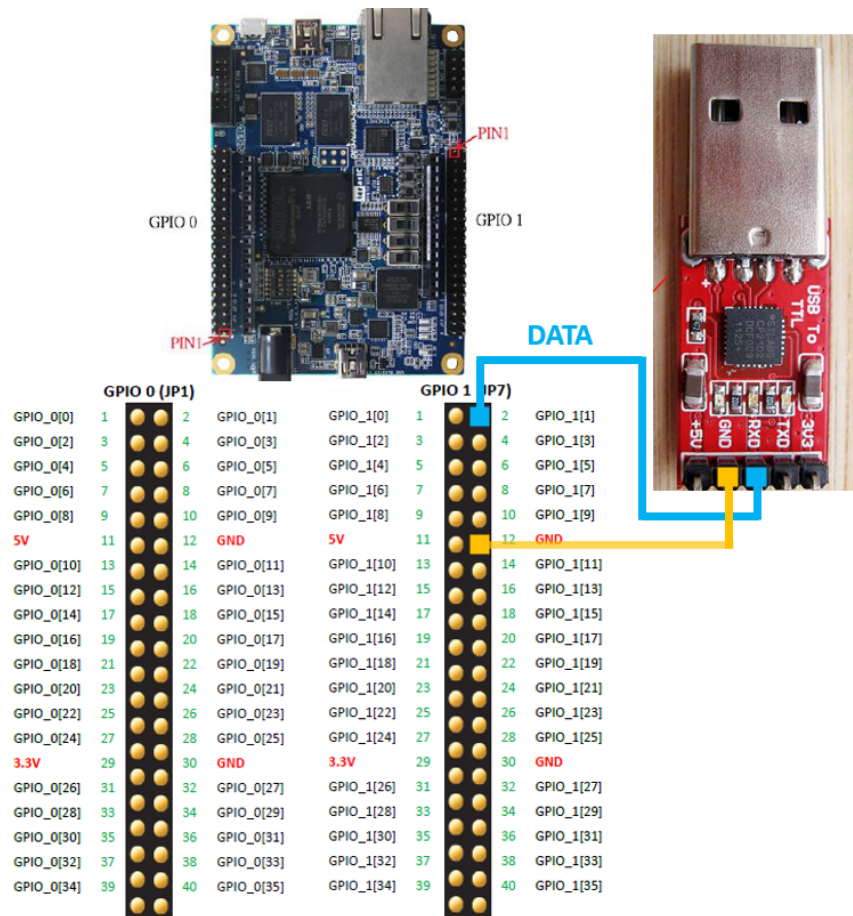

Figure 16: Wiring Diagram
In order to further evaluate the output data stream, we need to transmit it to a PC through series communication. A USB-RS232 adapter is supplied with your lab kits. Only the ground (GND) and receive (RX) pins on the adapter is required for our purposes (see Appendix Figure 16).